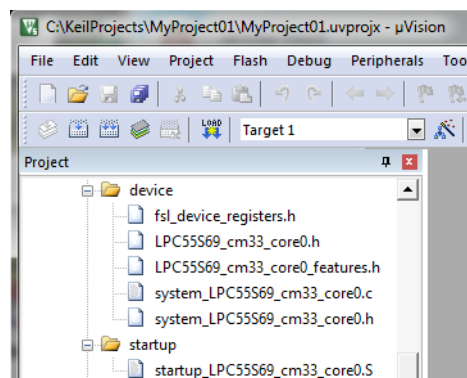

Figure 1-18. Project
10. Click OK, and a new project is created. The new project is now visible in the left-hand part of Keil uVision. See Figure 1-18.
13. Select Use Single Precision in the Floating Point Hardware option. See Figure 1-18.